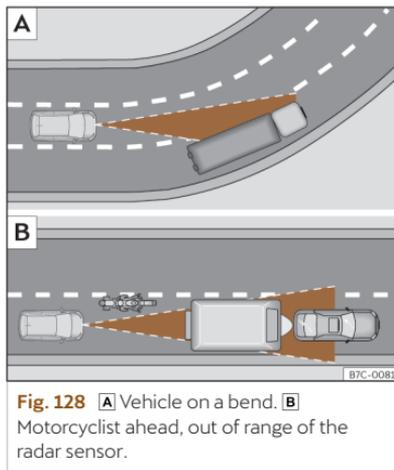

Fig. 128 **A** Vehicle on a bend. **B** Motorcyclist ahead, out of range of the radar sensor.
The ACC may not detect the vehicle in front on a curve, or may regulate the distance from vehicles in other lanes >>> **Fig. 128 A**.
- Vehicles that are not aligned while driving or that are outside the sensor's detection area, such as motorcycles >>> **Fig. 128 B**.